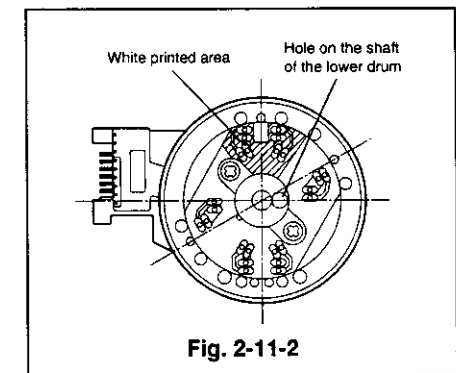

Fig. 2-11-2
- ① Attach the rotary transformer and the drum motor so that the terminals of both face in the same direction, and secure them with the screws (c), (d) and (e). Secure the rotor case with the screws (a) and (b).
- ② Position the white painted (shaded) area of the upper drum so that the area is 90° apart from the hole of the lower drum shaft. Insert the upper drum. Take care not to touch the head terminals. [Fig. 2-11-2]
- ③ Secure the upper drum with the two fastening screws. (Tighten the screws alternately.)
- ④ Solder the terminals of each head.